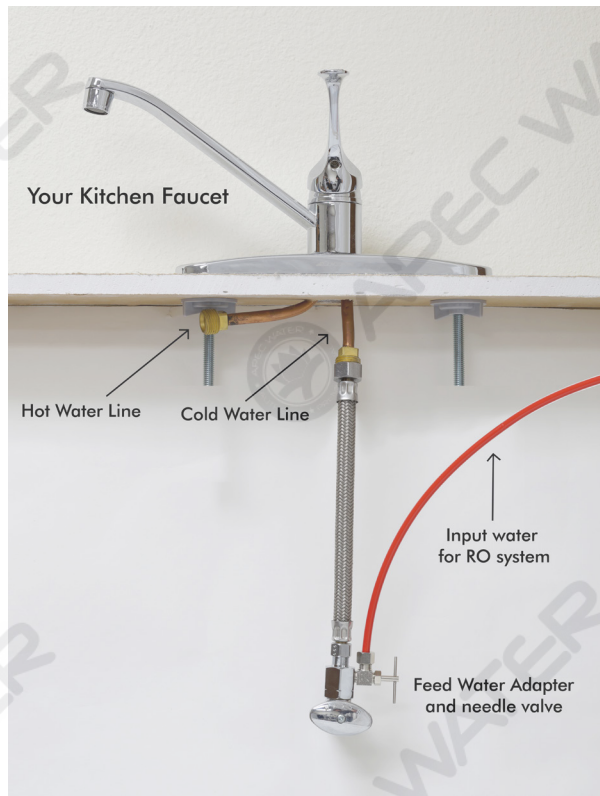

Fig. 5E
3. **Recommend Connection For Flex Line Riser:** See **Fig. 5A.** & **Fig. 5E** Loosen nut and separate cold water riser tube from shut off valve. Gently bend riser tube so that the Feed Water Adapter (**Fig. 4**) fits onto the shut off valve. Connect the riser tube, feed water adapter, and shut off valve together and **tighten.**